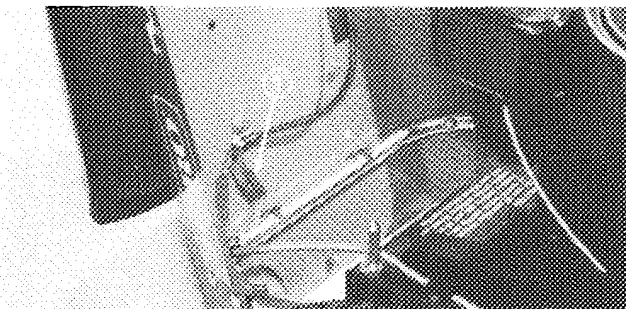

Figure 42
5. Check the interlock switch at front of the mower housing to be sure wires are not broken. Connectors must be making good contact. Also, assure seat switch connectors are together and wires are making contact (Fig. 42).